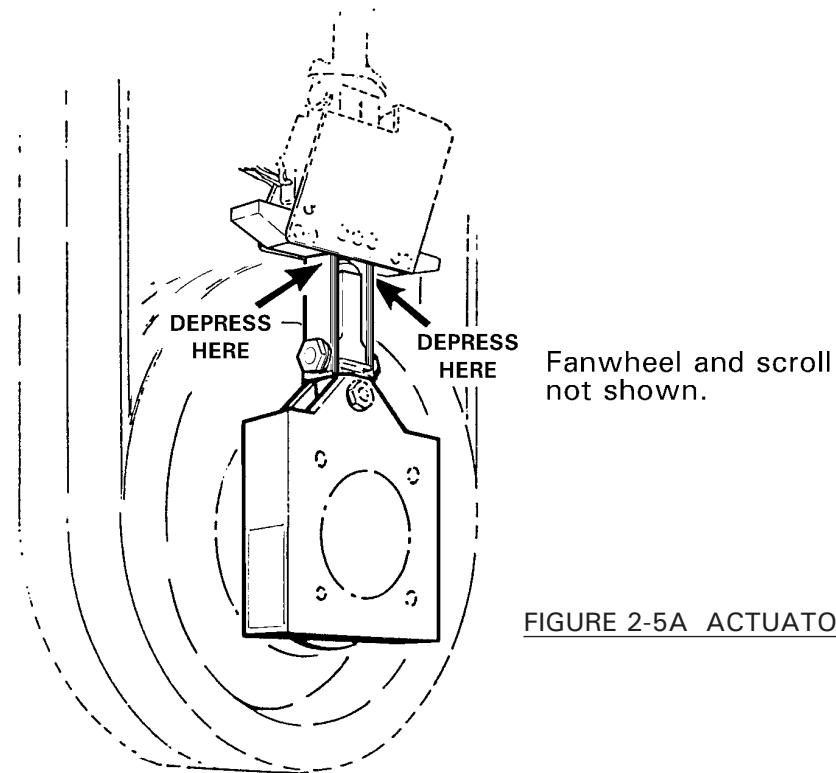

FIGURE 2-5A ACTUATOR FUNCTION TEST
- a. Refer to Figure 2-5A. Depress column springs on one side of actuator until springs snap inward (use large screwdriver or similar tool with several layers to tape over end to protect actuator). Hold springs inward for at least one second. Actuator motor should not run. If motor starts, allow motor to run approximately two seconds, then release pressure on column springs. Depress column springs again. If motor starts again, opposite spring switch does not function properly.